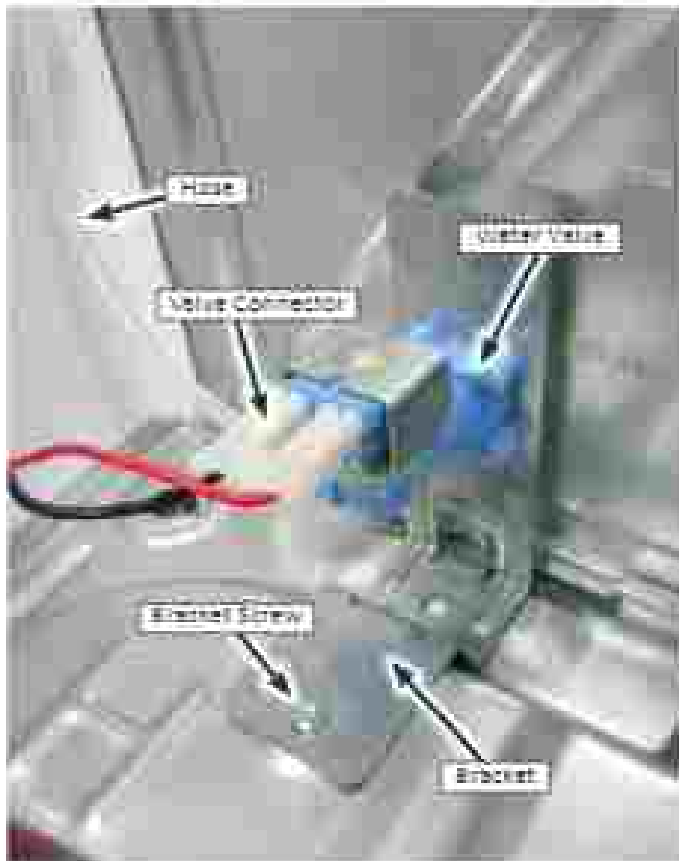

Figure 1 - Water valve viewed from right side.
3. Disconnect the water valve harness connector (see Figures 1 & 2).
4. Remove the "C-Clip" from the water valve tube fitting and remove water tube from valve assembly (see Figures 1 & 2).
5. Remove the 1/4" hex-head screw securing the water valve bracket to the dryer base. Remove water valve and bracket assembly from dryer. See Figures 1 & 2.